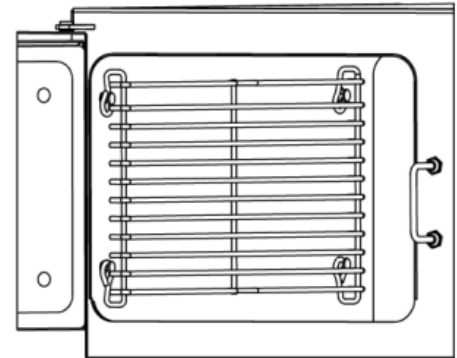

Figure 3-1
1. Refer to Figure 3-1. Each rack has four loops: two at the top and two at the bottom. Hold the slide rack so the ends of the hanger loops are towards the cavity wall, as shown in the figure.